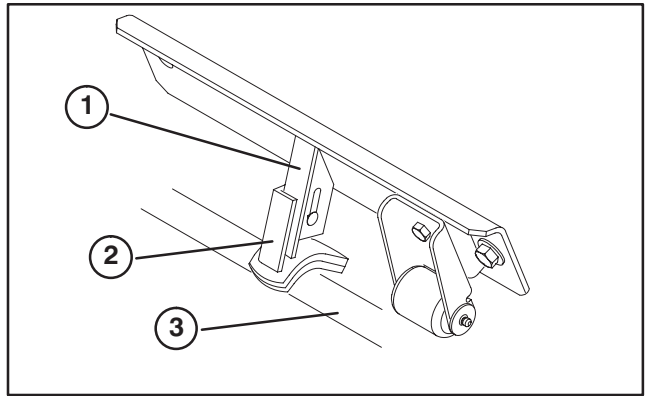

Figure 10
2. On front center cutting unit, loosen the carriage bolts and nut securing the stabilizer saddle to stabilizer (Fig. 10).